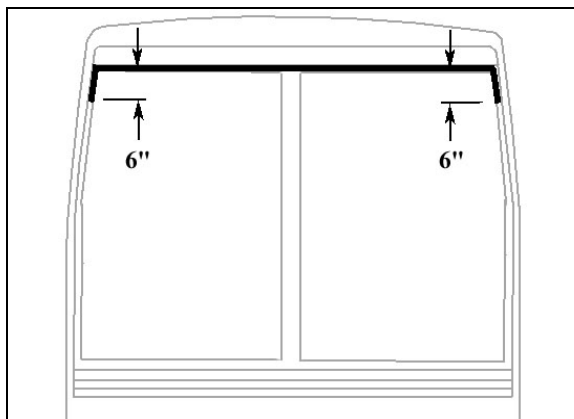

FIGURE 12: APPLICATION OF SIKA 221 BLACK
- Insert rope into rubber extrusion leaving enough length at each corner to make a loop. Spray soapy water onto rope and rubber extrusion (Fig. 12).